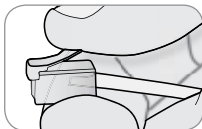

Fig. 22 - Plastic tab
- **ALWAYS** use the plastic tab to release plug (Fig. 22).